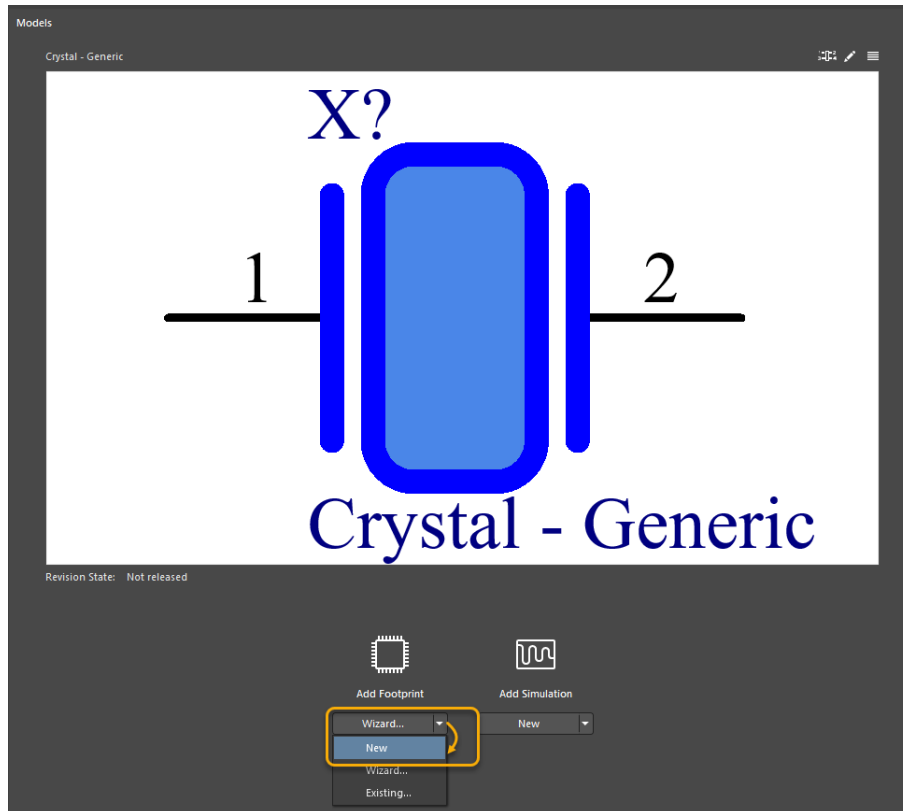
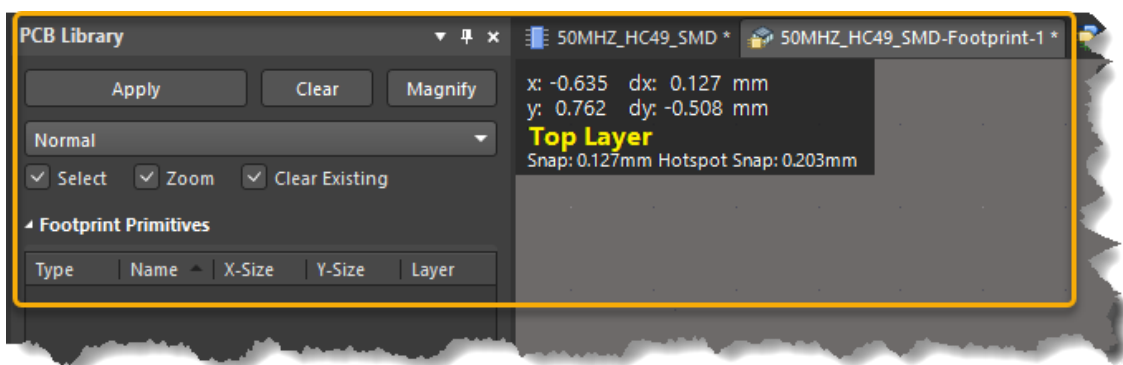

Figure 22. Creating New Footprint
Figure 23. PCB Footprint Document
36. Select **New** from the drop-down under **Add Footprint** in the *Models* section. See Figure 22 below. A new footprint document will open and a tab will be added to the Document Bar – see Figure 23 below.